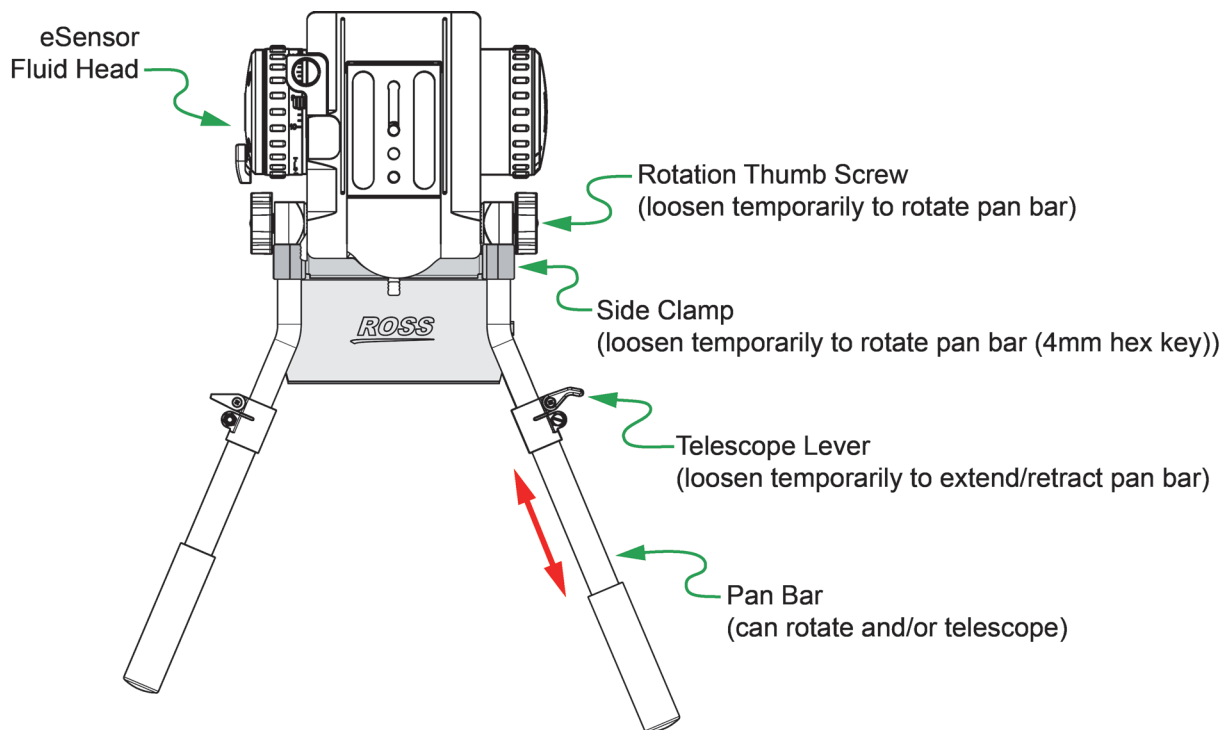

Figure 3.7 - Adjusting the Pan Bars (rotate and/or extend/retract)
d. Adjust the direction that the pan bars point, to suit your preferences (see **Figure 3.7**):
e. Adjust the length of each pan bar, to suit your preferences (see **Figure 3.7**):